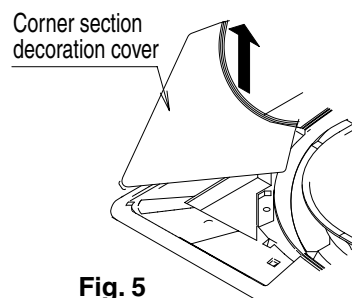

Fig. 5
- Lift the four corner decoration covers in the direction of the arrow and remove. (Refer to Fig. 5)